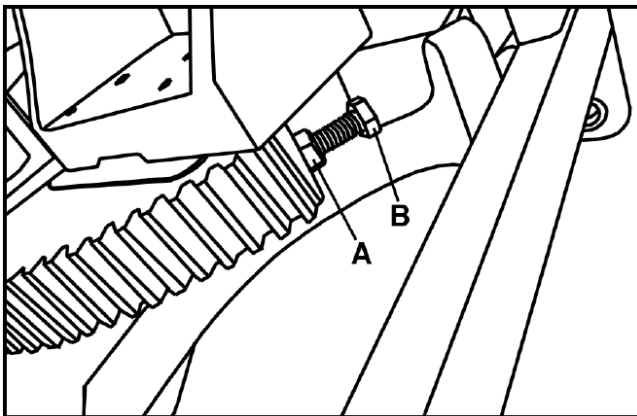

Fig.26: Adjust 90 degrees
4. If the blade is not at 90 degrees loosen lock nut (A) As **Fig.26** and turn stop ring (B) in or out. The stop ring (B) should stop against the front trunnion bracket when the blade is at 90 degrees to the table. Recheck and adjust further if necessary. Retighten lock nut (A).